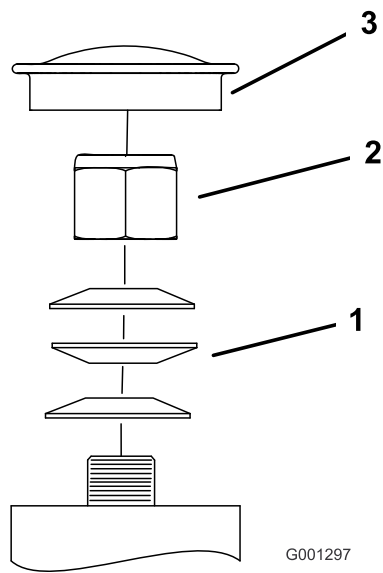

Figure 81
3. Remove the dust cap from caster and tighten the locknut (Figure 81).
4. Tighten the locknut until the spring washers are flat, and then back off a 1/4 turn to properly set the preload on the bearings (Figure 81).
Important: Make sure that the spring washers are installed correctly as shown in Figure 81.
5. Install the dust cap (Figure 81).